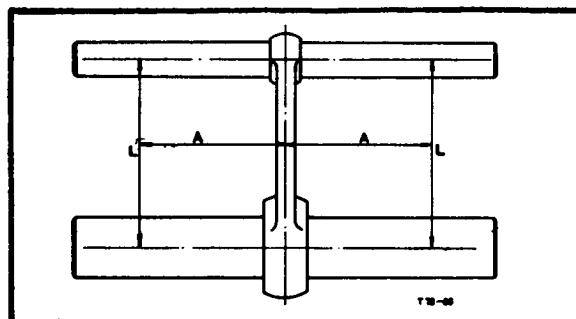

Fig. 5 CHECKING CONNECTING ROD ALIGNMENT
- (c) Check the connecting rods for alignment (Fig. 5). The bores must be square and parallel with each other in all planes within  $\pm 0.005$  inch (L-5) measured 5 inches each side of the centre line (A-5).